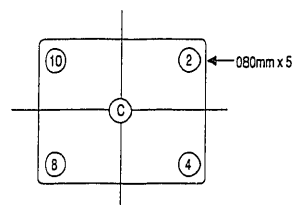

Fig. 2-1-2-5
- (12) Turn over the direction of CPT axis direction magnetic field of the Earth's magnetic field and check it by the same way as item (11). The positions of mislanding criteria with microscope should be 2, 4, 8 and 10. (Fig. 2-1-2-5)